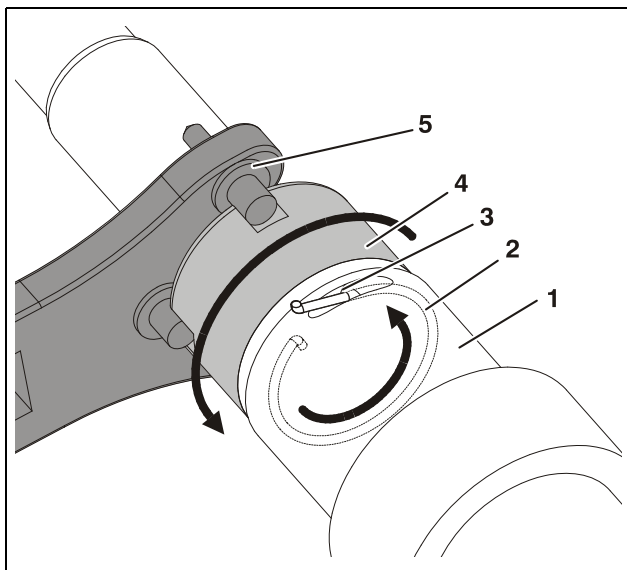

Figure 6-19. Cylinder Rod/Gland - Removal
6. Insert a new retaining ring into the slot with the hook end of the retaining ring facing down and inserted into the hole in the gland. (See Figure 6-19.)